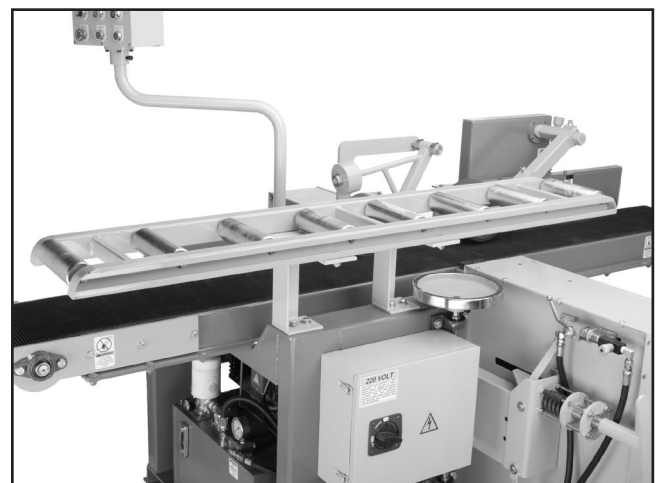

Figure 17. Return roller placement.
2. Get assistance and lift the rollers into the position shown in **Figure 17**.